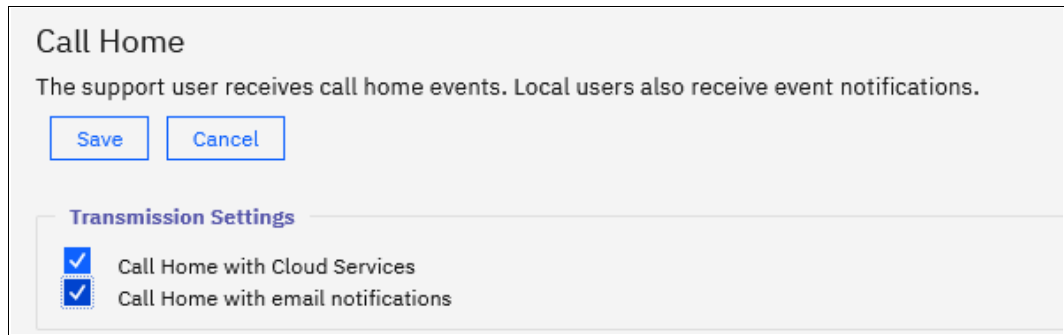

Figure 13-48 Entering Edit mode
6. After completing the configuration wizard, test the email function. To do so, enter Edit mode, as shown in Figure 13-48. In the same window, you can define more email recipients or alter any contact and location details as needed.